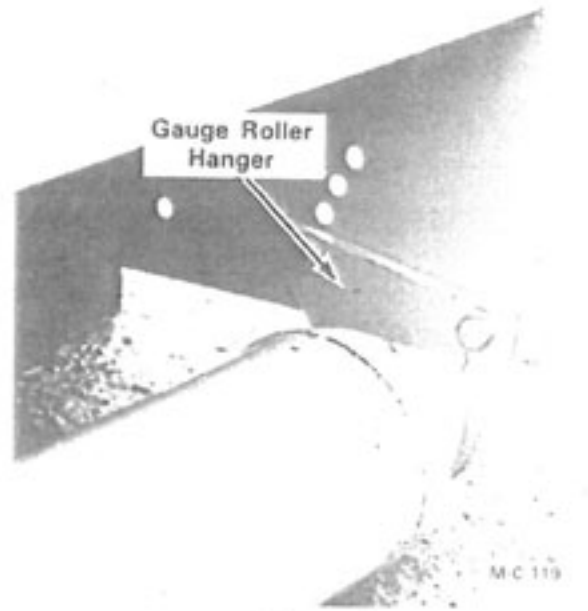

Figure 3
2. Install the gauge roller hangers into the ends of the gauge roller and position the gauge roller under the mower, see Figure 3.